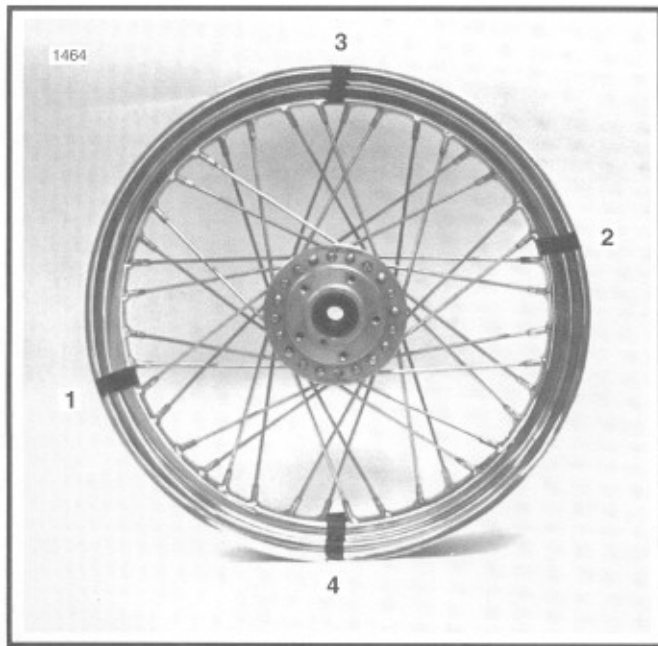

Figure 2-27. Marking Spoke Groups
1. See Figure 2-27. With a piece of tape, mark the center of each of four groups of four as shown. The groups should be directly across from one another and approximately 90° apart.